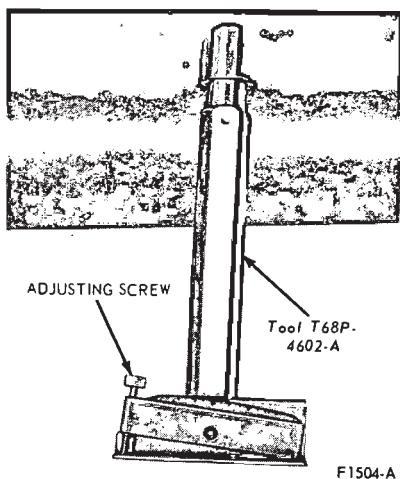

FIG. 4—Positioning Tool on
4. From the left side of the vehicle, position the magnetized Tool T68P-4602-A on the vee magnet with the adjusting screw to the left (Fig. 4). Adjust the dial on the tool with the adjusting screw until the left-hand edge of the bubble is exactly on the zero line.
vee magnet (Fig. 4).